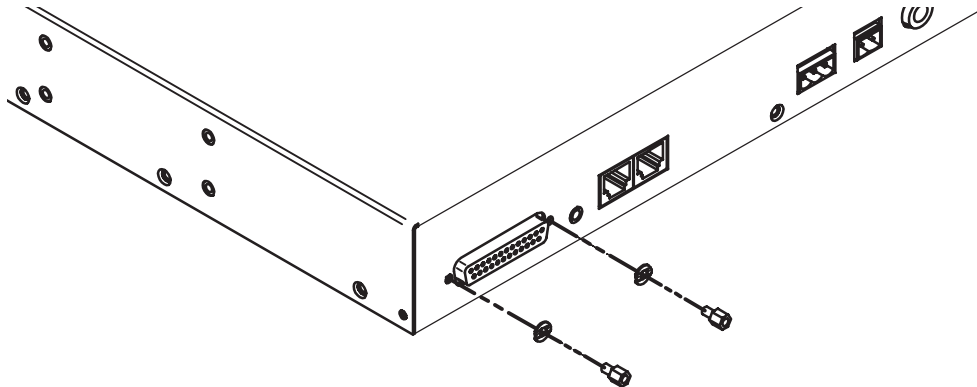

Figure 3. Removing the RS-232 Nuts
- Remove the nuts on either side of the RS-232 connector (on the rear panel of the unit) using the 3/16" nut driver (see Figure 3).